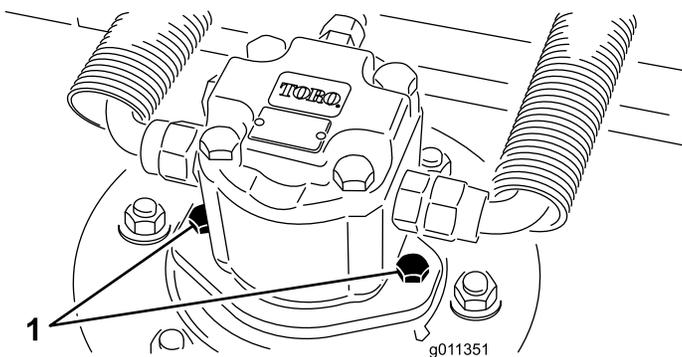

Figure 81
2. Disconnect and remove the hydraulic motor from the deck (Figure 81). Cover the top of the spindle to prevent contamination.
4. Install the hydraulic motor to the deck (Figure 81). Make sure that the O-ring is in position and not damaged.